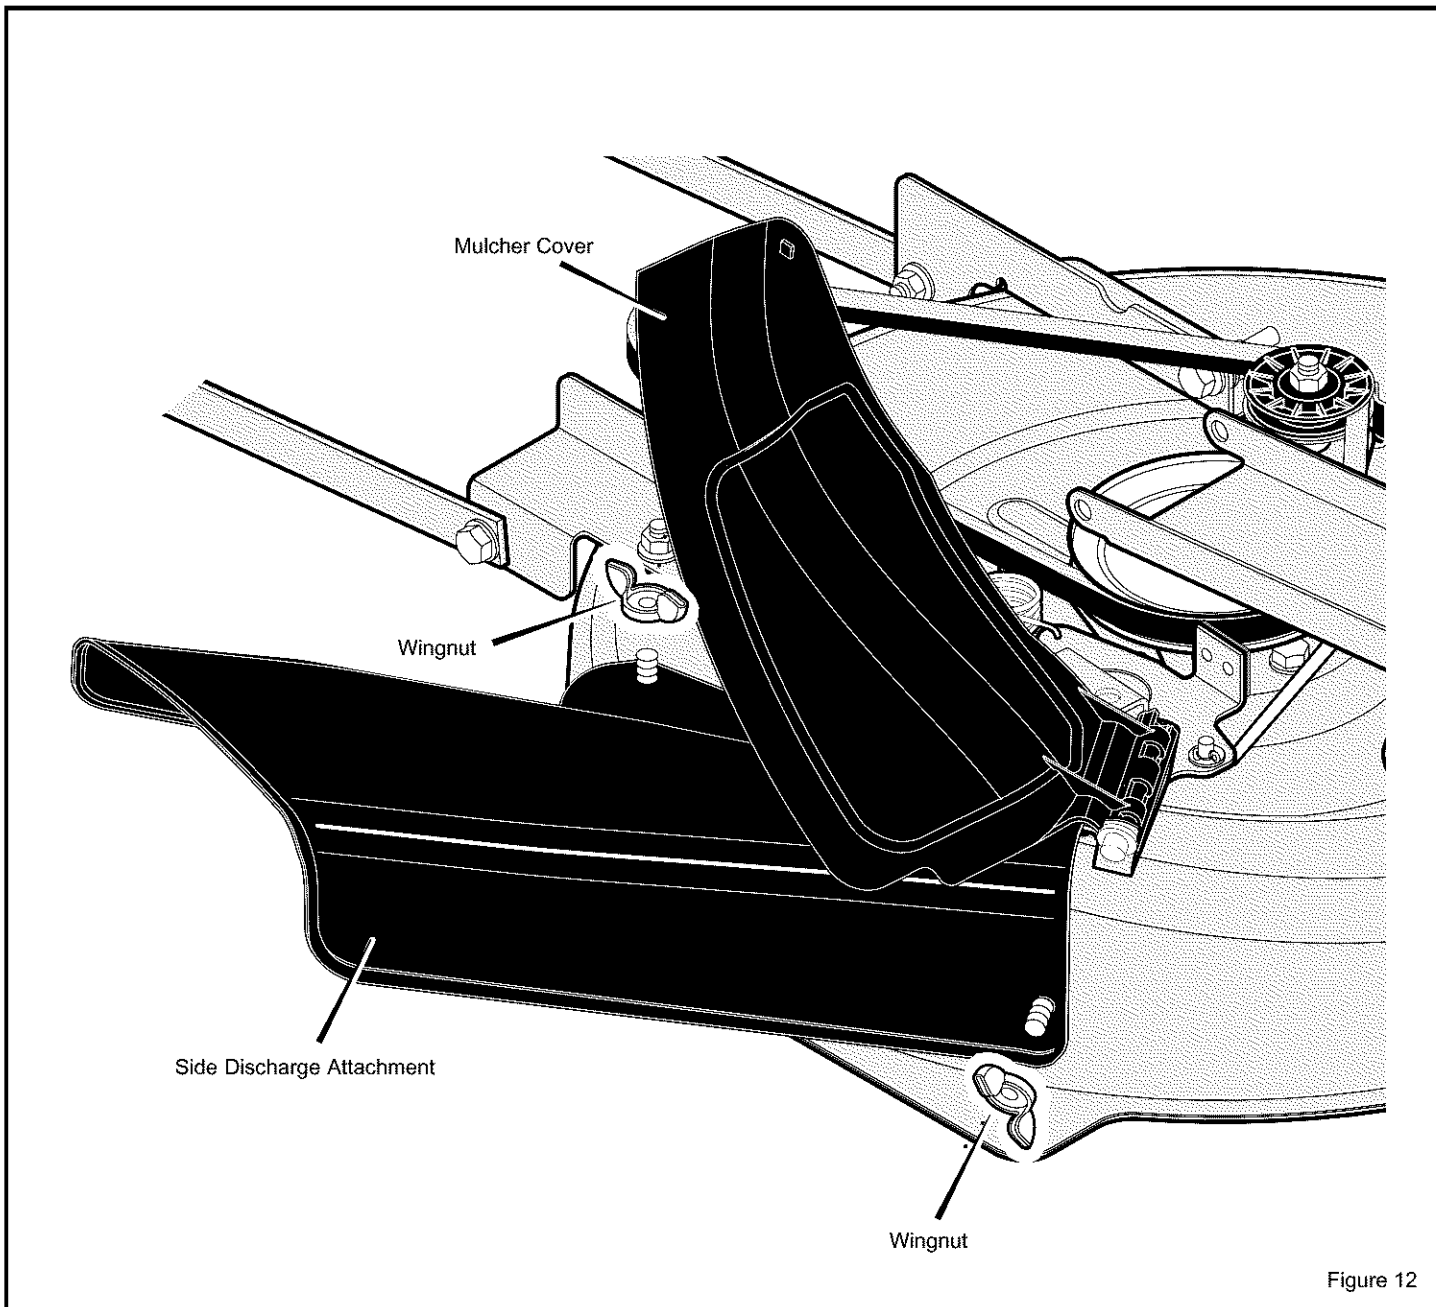

Figure 12
1. Remove the two **wingnuts** (see Figure 12).